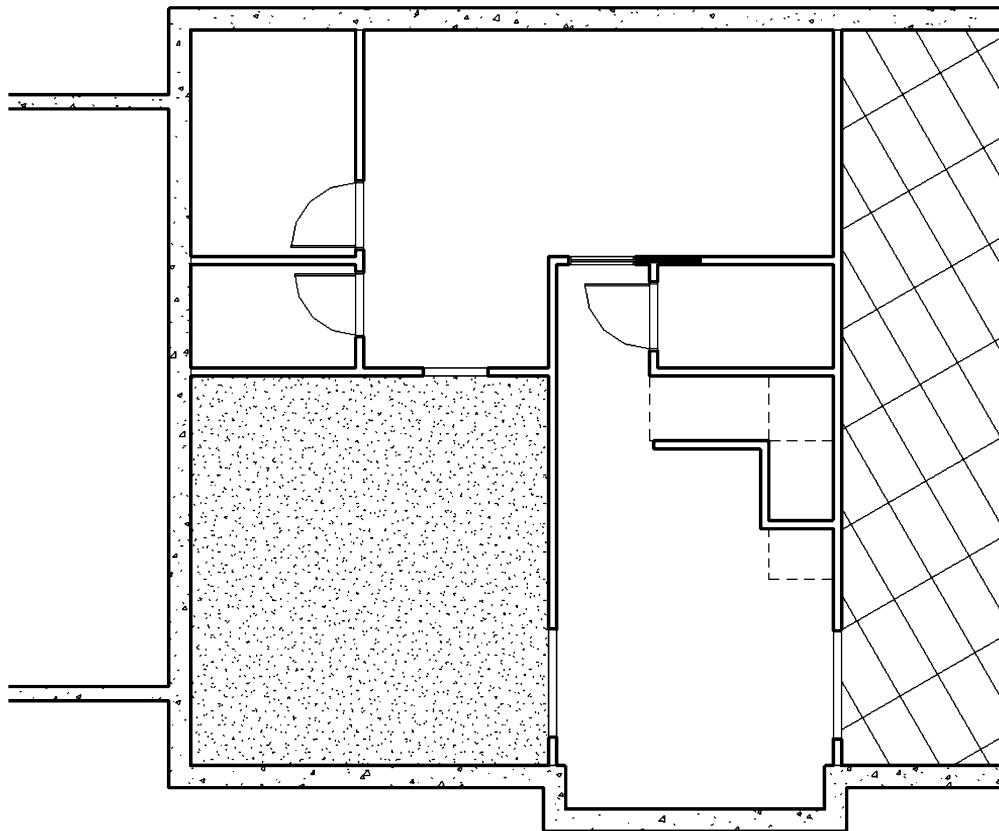

FIGURE 9-2.11 Gyp. Bd. Ceiling added
32. Pick the lower left room as shown in **Figure 9-2.11**. If you don't see the ceiling, you may have forgotten to change the material to *Gypsum Ceiling Board* back in step 28.